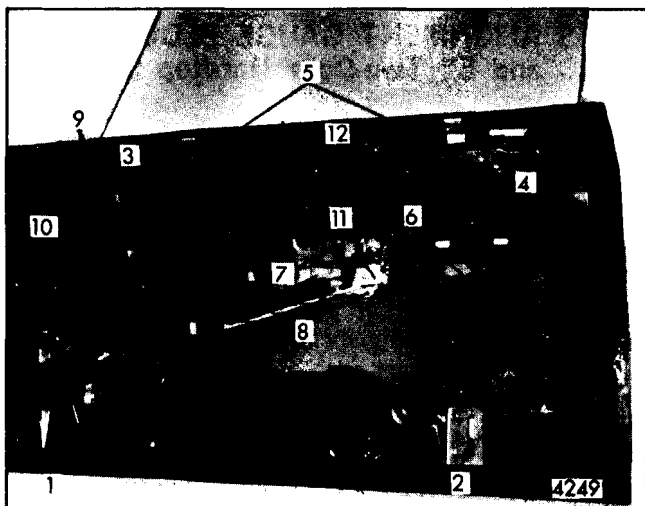
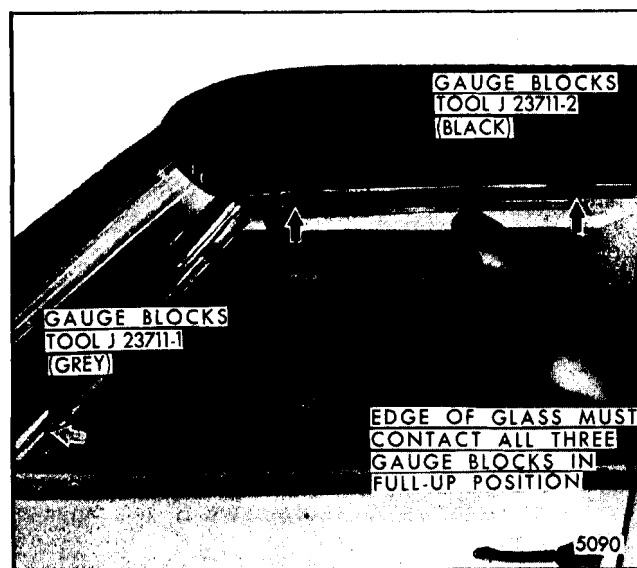
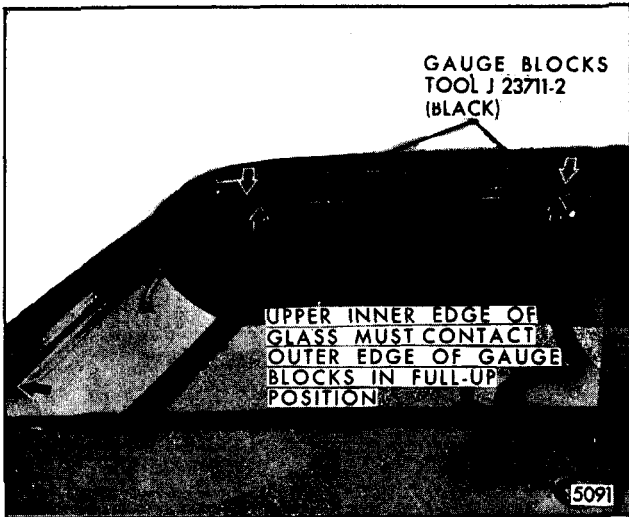

Fig. 6-78-Front Door Window Removal and Adjustment - "B, C and E" Two-Door Hardtop and Convertible Styles
Figure 6-88 - Front Door Window Alignment (Fore and Aft Adjustment)
Figure 6-89 - Front Door Window Alignment (In and Out and Up-Travel Adjustment)
2. Remove front and rear up-travel stops ("3 and 4", Figure 6-78) and stabilizer strips ("5", Figure 6-78).
3. Remove glass bearing plate adjusting stud nut ("10", Figure 6-78) and turn adjusting stud clockwise until bearing plate is out of contact with bearing button on glass.
4. Remove lower sash guide plate assembly to glass attaching bolts ("6", Figure 6-78). Tilt upper edge of glass inboard to disengage glass from guide plate, then remove the window from the door by lifting straight-up.
1. In and out adjustment of the glass is controlled by the in and out adjustment available at the front door window lower sash lower guide ("8", Figure 6-78) and the in and out position of the glass stabilizer strip assemblies ("5", Figure 6-78). The lower sash lower guide assembly and stabilizer strips are slotted to permit in and out adjustment of the glass. Outboard adjustment of the lower sash lower guide moves the top of the glass inboard. Conversely, inboard adjustment moves the top of the glass outboard.
2. Fore and aft adjustment of the window assembly is controlled by the position of the lower sash channel guide plate assembly ("6", Figure 6-78). The guide plate to glass attaching locations are slotted to permit fore and aft adjustment of the glass.
3. Ease of window operation and window stability depend to a great extent on the adjustment of the window stabilizer strip assemblies at the beltline ("5", Figure 6-78) and glass bearing plate ("9 and 10", Figure 6-78). The stabilizing strips ("5") should contact the glass throughout the full cycle of the window. Due to slight variations in glass contour, however, in some cases the strip may lose contact with the glass halfway through the cycle. This is permissible provided it does not result in loose glass. Contact should be sufficient to stabilize glass, but not restrict ease of window operation. The glass bearing plate is adjustable in and out and should contact a glass bearing button (on glass) when glass is in a full-up position.
4. A window that is roated (cocked) in the window opening may be the result of an improperly adjusted lower sash upper guide assembly ("7", Figure 6-78) or poorly adjusted up-travel stops ("3" or "4", Figure 6-78).
Correct a poorly adjusted lower sash upper guide assembly by loosening upper guide assembly attaching bolts ("7", Figure 6-78) and rotating front edge of glass up or down in relation to rear edge of glass as necessary.
5. Up-travel of the window is determined by the adjustment of the front and rear window up-travel stops ("3" and "4", Figure 6-78). To adjust window up-travel, loosen front and rear up-stops
6. Down-travel of the window is determined by the position of the front and rear window down-travel bumper supports ("1" and "2", Figure 6-78). To adjust window down-travel, loosen front and rear window bumpers and lower window to desired glass height. Then, position front and rear bumper against lower edge of glass and tighten bumper attaching bolts.
4. Working from inside body, with door in the closed position, loosen front and rear up-travel stops ("3" and "4", Figure 6-78), stabilizer strips ("5", Figure 6-78) and glass bearing plate ("10", Figure 6-78). To loosen bearing plate, remove stud nut and turn adjusting stud "10" clockwise until bearing plate is out of contact with bearing button on glass.
6-81), proceed with step number six (6). If distance (space) between the upper edge of the glass and both upper gauge blocks is not equal, loosen lower sash lower guide attaching bolts ("7", Figure 6-78) through access holes ("11", Figure 6-78) and adjust glass as necessary.
If upper and forward edge of glass contacts all three gauge blocks simultaneously (as shown in Figure 6-88), proceed with step number (7). If upper and forward edge of glass does not contact all three gauge blocks simultaneously, loosen fore and aft adjustment on lower sash guide plate ("6", Figure 6-78) through access holes ("12", Figure 6-78) and move glass forward or rearward until the edge of glass contacts all three gauge blocks in the full-up position.
7. Completely loosen lower sash lower guide assembly "7", Figure 6-78). Apply firm outboard pressure against upper end of front guide to remove slack in system and to hold upper inner edge of glass inboard against the outer edge of the gauge blocks, as shown in Figure 6-89. Then, tighten lower sash lower guide assembly attaching bolts.
8. With glass in full-up position against upper gauge blocks, tighten up-travel stops ("3" and "4", Figure 6-78) and adjust stabilizer strips ("5", Figure 6-78) for proper tension against glass. Then turn glass bearing plate adjusting stud counterclockwise until the plate assembly contacts the bearing button on glass.
2. Detach side roof rail weatherstrip at lower front corner and carefully remove from retainer over door window, as shown in Figure 6-88.
equivalent into side roof rail weatherstrip retainer above upper front and rear corners of glass as shown in Figure 6-88. Then, install gauge block, tool J-23394-1 (Red), or equivalent into the windshield pillar retainer slightly above beltline.
If upper and forward edge of glass contacts all three gauge blocks simultaneously (as shown in Figure 6-88), proceed with step number (7). If upper and forward edge of glass does not contact all three gauge blocks simultaneously, loosen fore and aft adjustment on rear guide ("5" Figure 4186) and move glass forward or rearward until the edge of glass contacts all three gauge blocks in full-up position.
7. Completely loosen upper ends of front and rear guides. Apply firm outboard pressure against upper end of the front guide to remove slack in the system and to hold upper inner edge of glass inboard against outer edge of gauge blocks, as shown in Figure 6-89. Then, tighten upper guide attaching bolts. Repeat operation with rear guide. Guides will now be coordinated to the plane of the glass.